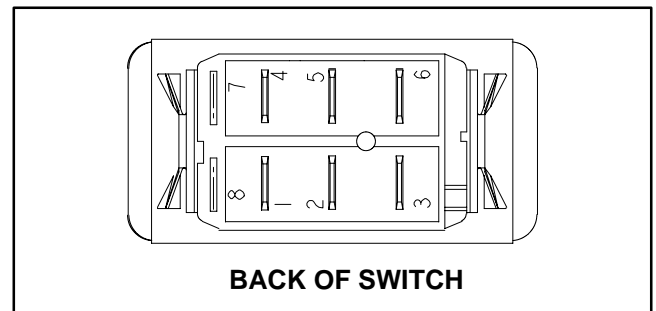

Figure 24
4. With the use of a multimeter (ohms setting), the switch functions may be tested to determine whether continuity exists between the various terminals for each switch position. The PTO switch terminals are marked as shown in Figure 24. The circuitry of this switch is shown in the chart below. Verify continuity between switch terminals.